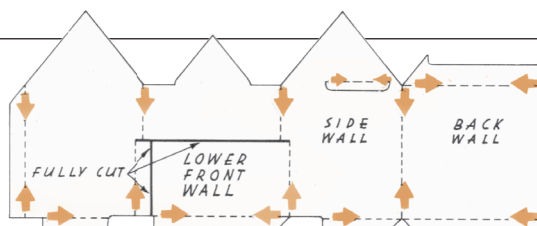

Fig. 1a
- 1** First identify on SHEET 1 the four main walls shown as a small outline drawing (Fig. 1a) noting the red arrow scored lines. Make cuts to the edge of the board to complete the TABS along the bottom of the WALLS and remove the whole part as one piece. Clear the window apertures, setting aside the two BRACKETS. From the transparent glazing material, cut away the appropriate windows along the dotted lines. All the windows for this model will be found printed in a buff colour on the window chart. The small square window and one of the other small ones will be used for the ENTRANCE later. Starting with one of the small windows, glue around the edges of the window on the unprinted side and place on a table. Lower the back side of the window aperture on to the glazing making sure it fits in place and press down. Repeat with the remaining windows.